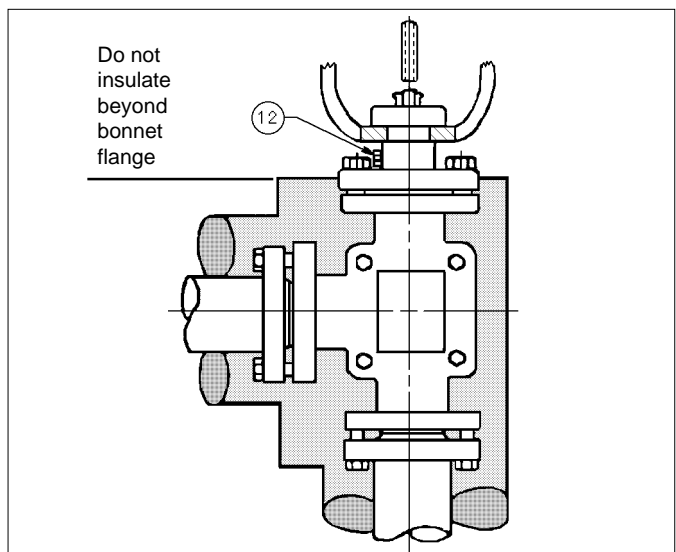

Figure 2: Body Insulation
7. Insulation may be applied as indicated in Figure 2. Drainage from the packing area must be assured when fully installed, sealed and lagged for outdoors installation. Vented pipe plug (12) should not be covered.